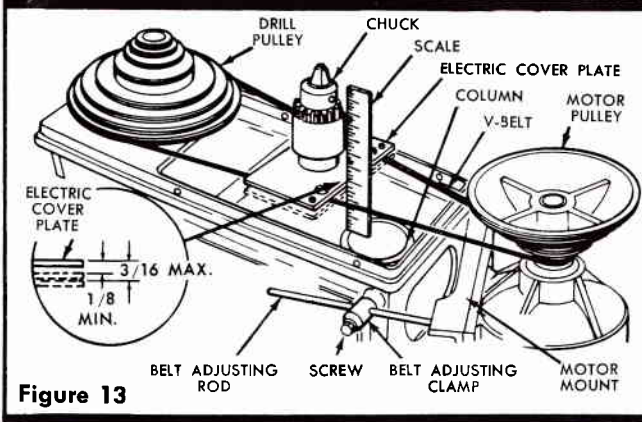

Figure 13
10. Adjust V-Belt tension. Refer to "BELT TENSION" under ADJUSTMENTS" (see figure 13).
Loosen screw on belt adjusting clamp (See figure 13). Position motor mount until V-belt is taut. Hold motor mount at this position, slide belt adjusting rod against mount and tighten screw on belt adjusting clamp.